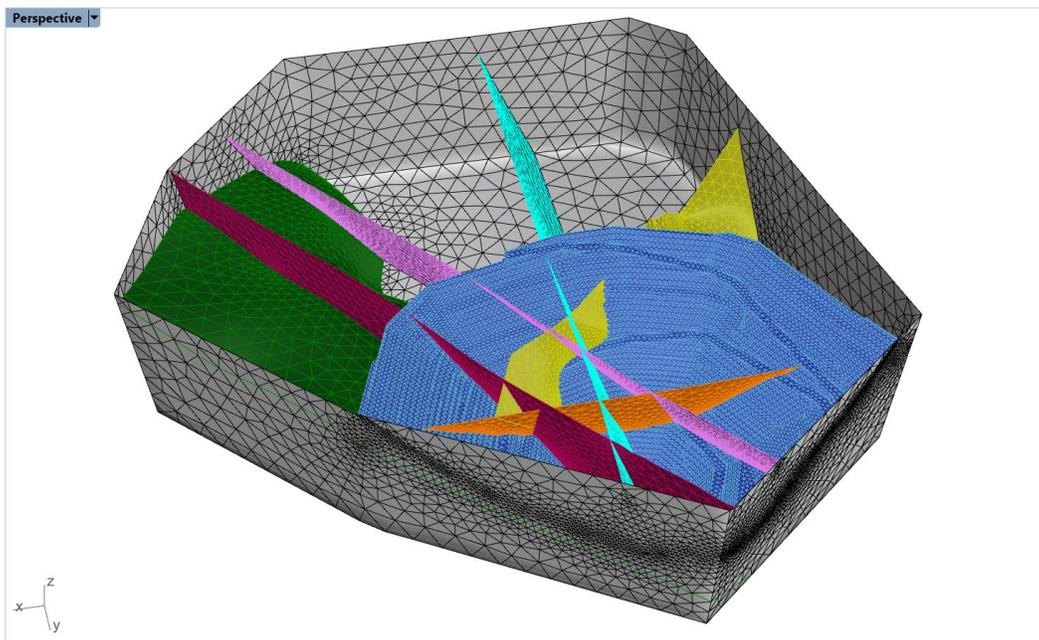

Figure 88: Final triangular surface meshes (the pit dump and topo meshes are not shown).
34. Remesh all meshes using **_GSurf**: *Mode = Tri, MinEdgeLength = 10, MaxEdgeLength = 75, RidgeAngle = 10°* and *AdvancedParameters: MaxGradation = 0.2, Optimization = 10, ShapeQuality = 0.9, and OutputMesh = Separated*. The results are shown in Figure 88.